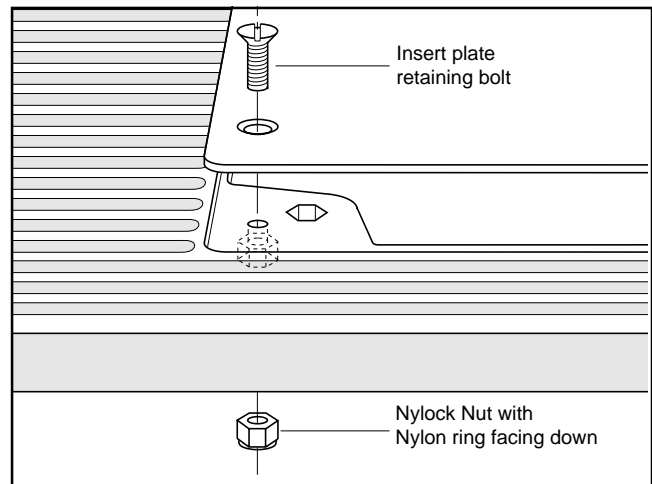

Fig. G.3
5. Insert the four **Insert Plate Retaining Bolts** and fit the four **Nylock Nuts** to secure the **Insert Plate** to the **Table Surface**, and tighten securely, see fig. G.3.